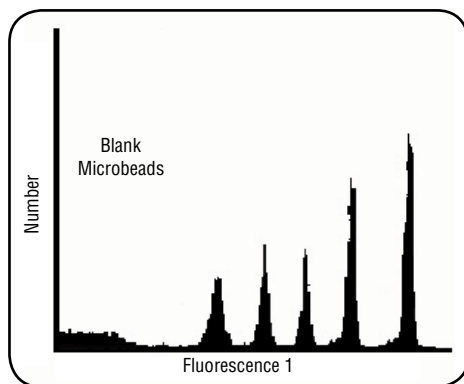

Figure 2
6. Verify that the blank appears near the origin of the histogram. (Figure 2)
Figures 2 and 3 depict the FITC fluorescence histogram of the Quantum FITC-5 MESF microspheres and the calibration curve from which the MESF values can be obtained, respectively.